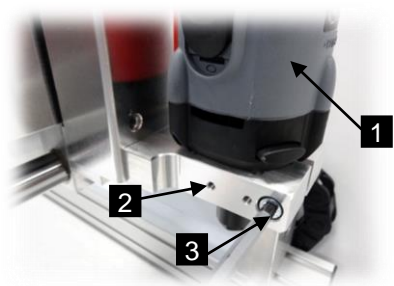

Figure 25: Tool holder with milling
- 1 Tool, for example milling motor with 43mm neck Euro (Fig. 25/1) insert in the tool holder (Fig. 25/2) on the Z carriage.
- 2 Tighten screw (Fig. 25/3) lightly until a clamping is done
- Never tighten the screw (Fig. 25/2) for fixing the milling motor, excessively.